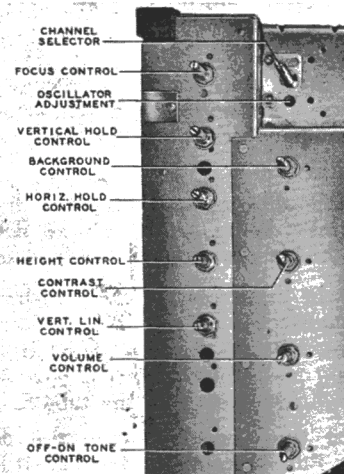

FIGURE 6. FRONT CONTROLS
2. Referring to figure 6, set the BACKGROUND control to its maximum clockwise position, and the BEAM BENDER control (shown in figure 7), on the rear of the chassis, about 3/4-turn clockwise. Then move the beam-bender coil slightly forward and backward, and to the left and right, to obtain maximum brilliance on the picture-tube face. Adjust the BEAM BENDER control for maximum over-all brilliance of the raster; turn the BACKGROUND control counter-clockwise, as necessary, to observe the effect of the BEAM BENDER adjustment.
3. Turn the Philco Precision Channel Selector to the station to be used for adjustments. Adjust the oscillator tuning core (figure 6) until the sound is clearly heard, and set the VOLUME control for a comfortable volume.
13. Before adjusting the frequency of the local oscillator, allow the Receiver to operate for *at least 20 minutes*. Connect a 20,000-ohms-per-volt meter to the a-f-c test jack; remove the Philco Precision Channel Selector knobs. Turn the core of the oscillator coil (see figure 6) in a clockwise direction for a positive voltage indication, then turn it in a counterclockwise direction for a negative indication, noting the zero, or crossover, point; from the zero point, turn the core clockwise until a +.2-volt indication is obtained.